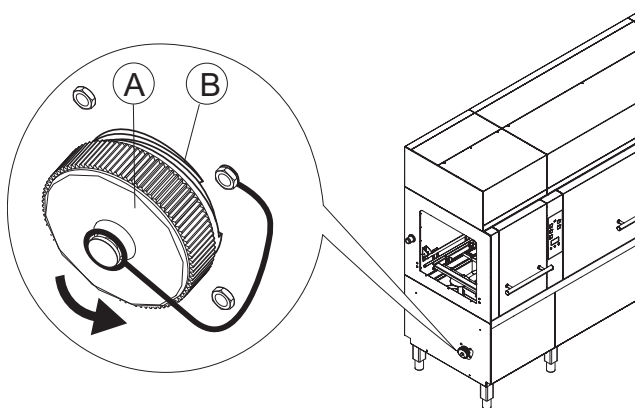

Figure 16 Handling electrical connection system
The left and right side panels of the dishwasher have a connector "B" (Figure 16), closed with a plug "A" (Figure 16), to be used for carrying out the electrical connection of the rack handling systems.
- unscrew plug "A" (Figure 16) anticlockwise;